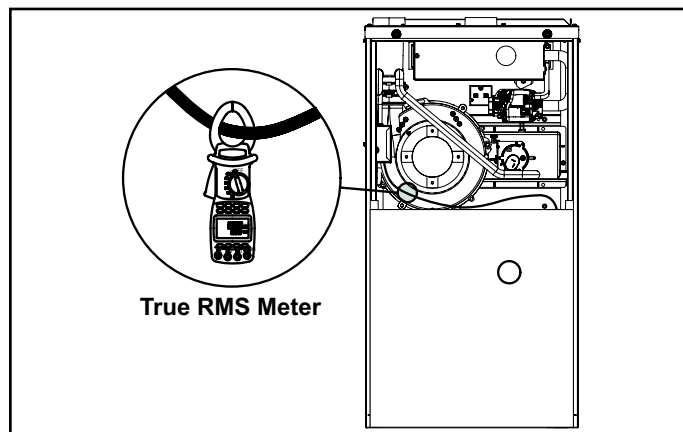

Figure 50. Check Motor Amp Draw
3. Check amp-draw using a true RMS meter on the blower motor with blower access panel in place. See Figure 50.